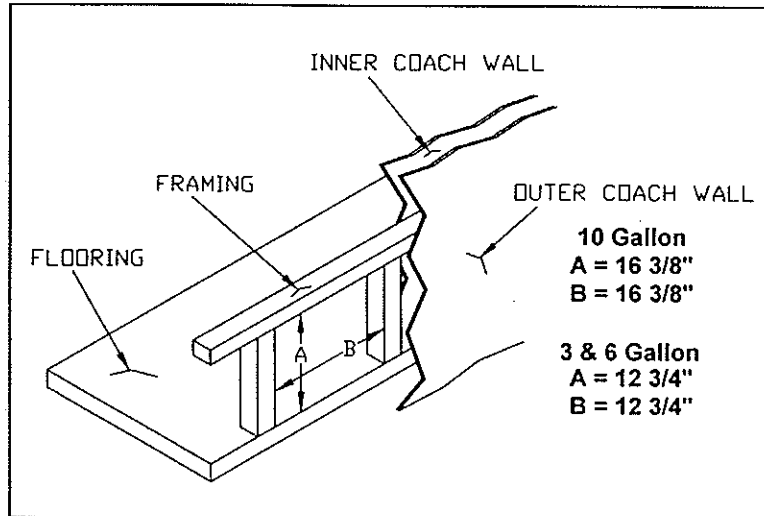
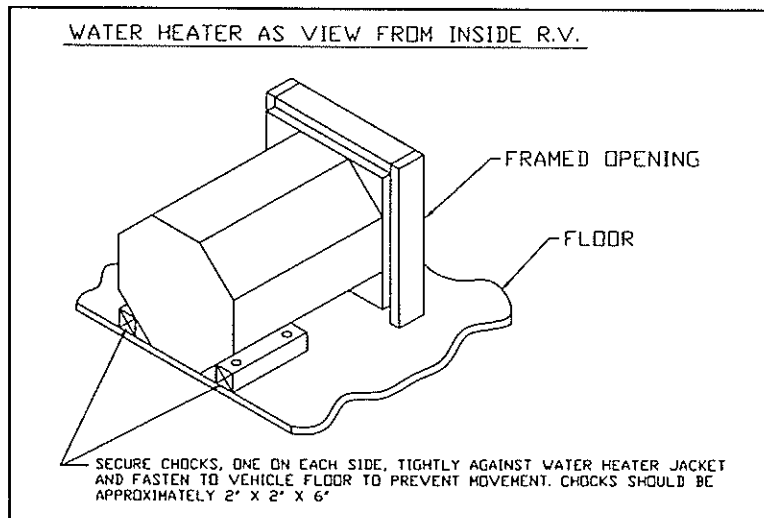

Figure 1
Figure 1A
Provide an opening flush with floor in outer wall of coach. Wall of coach should be framed as shown in Figure 1. Maintain inside dimensions listed below. Do not install on carpet unless the carpet is covered by a metal or wood shield covering the entire area underneath the water heater. If preferred, cut away the carpet from this area. Chocks must be in place to secure rear of unit (See Figure 1A).
C. Install chocks, one on each side of water heater, as illustrated in Figure 1A.
- H. Install chocks, one on each side of water heater, as illustrated in Figure 1A.